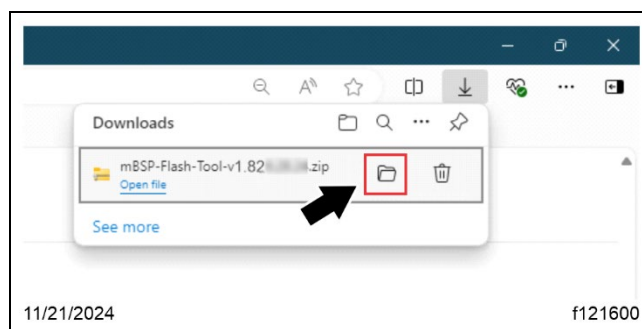

Fig. 24, mBSP Flash Tool Zip File Downloaded
- 5.3. The zip file is downloaded on your local hard drive and a 'Downloads' panel appears at the top-right corner of the browser. See **Fig. 24**.
- 5.4. Select the 'Show in folder' button, shown in **Fig. 24**. The location where the zip file is saved opens in File Explorer.